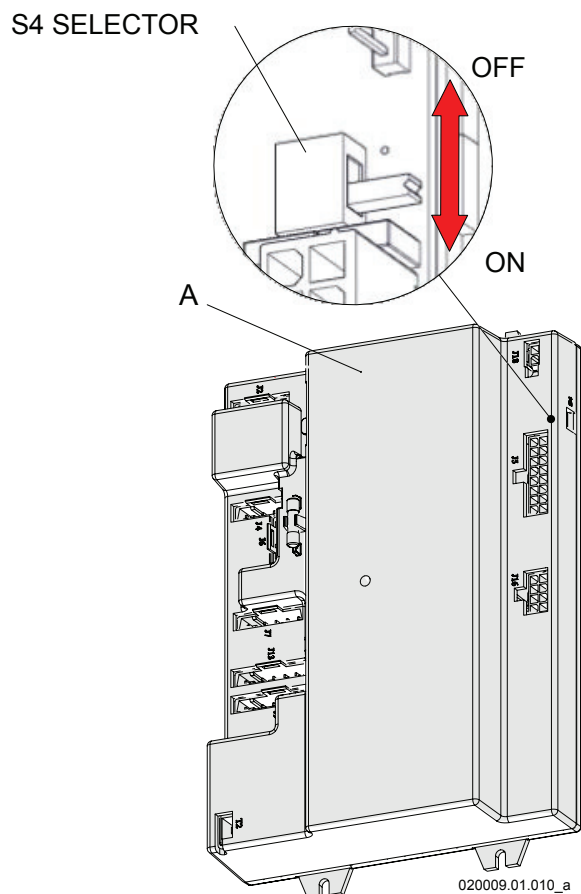

Figure 17-11 - Command board
9. Move selector "S4" as shown in figure 17-11 from the OFF position to the new ON position;